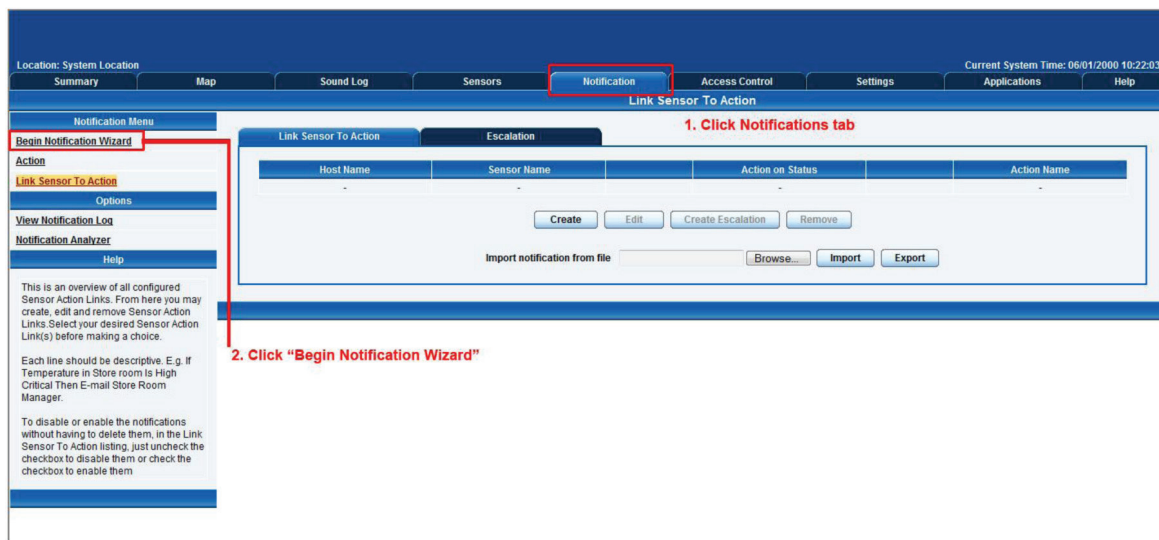

Figure 4-1. Notification Wizard tab.
1. Click on the "Begin Notification Wizard" tab as shown in Figure 4-1.